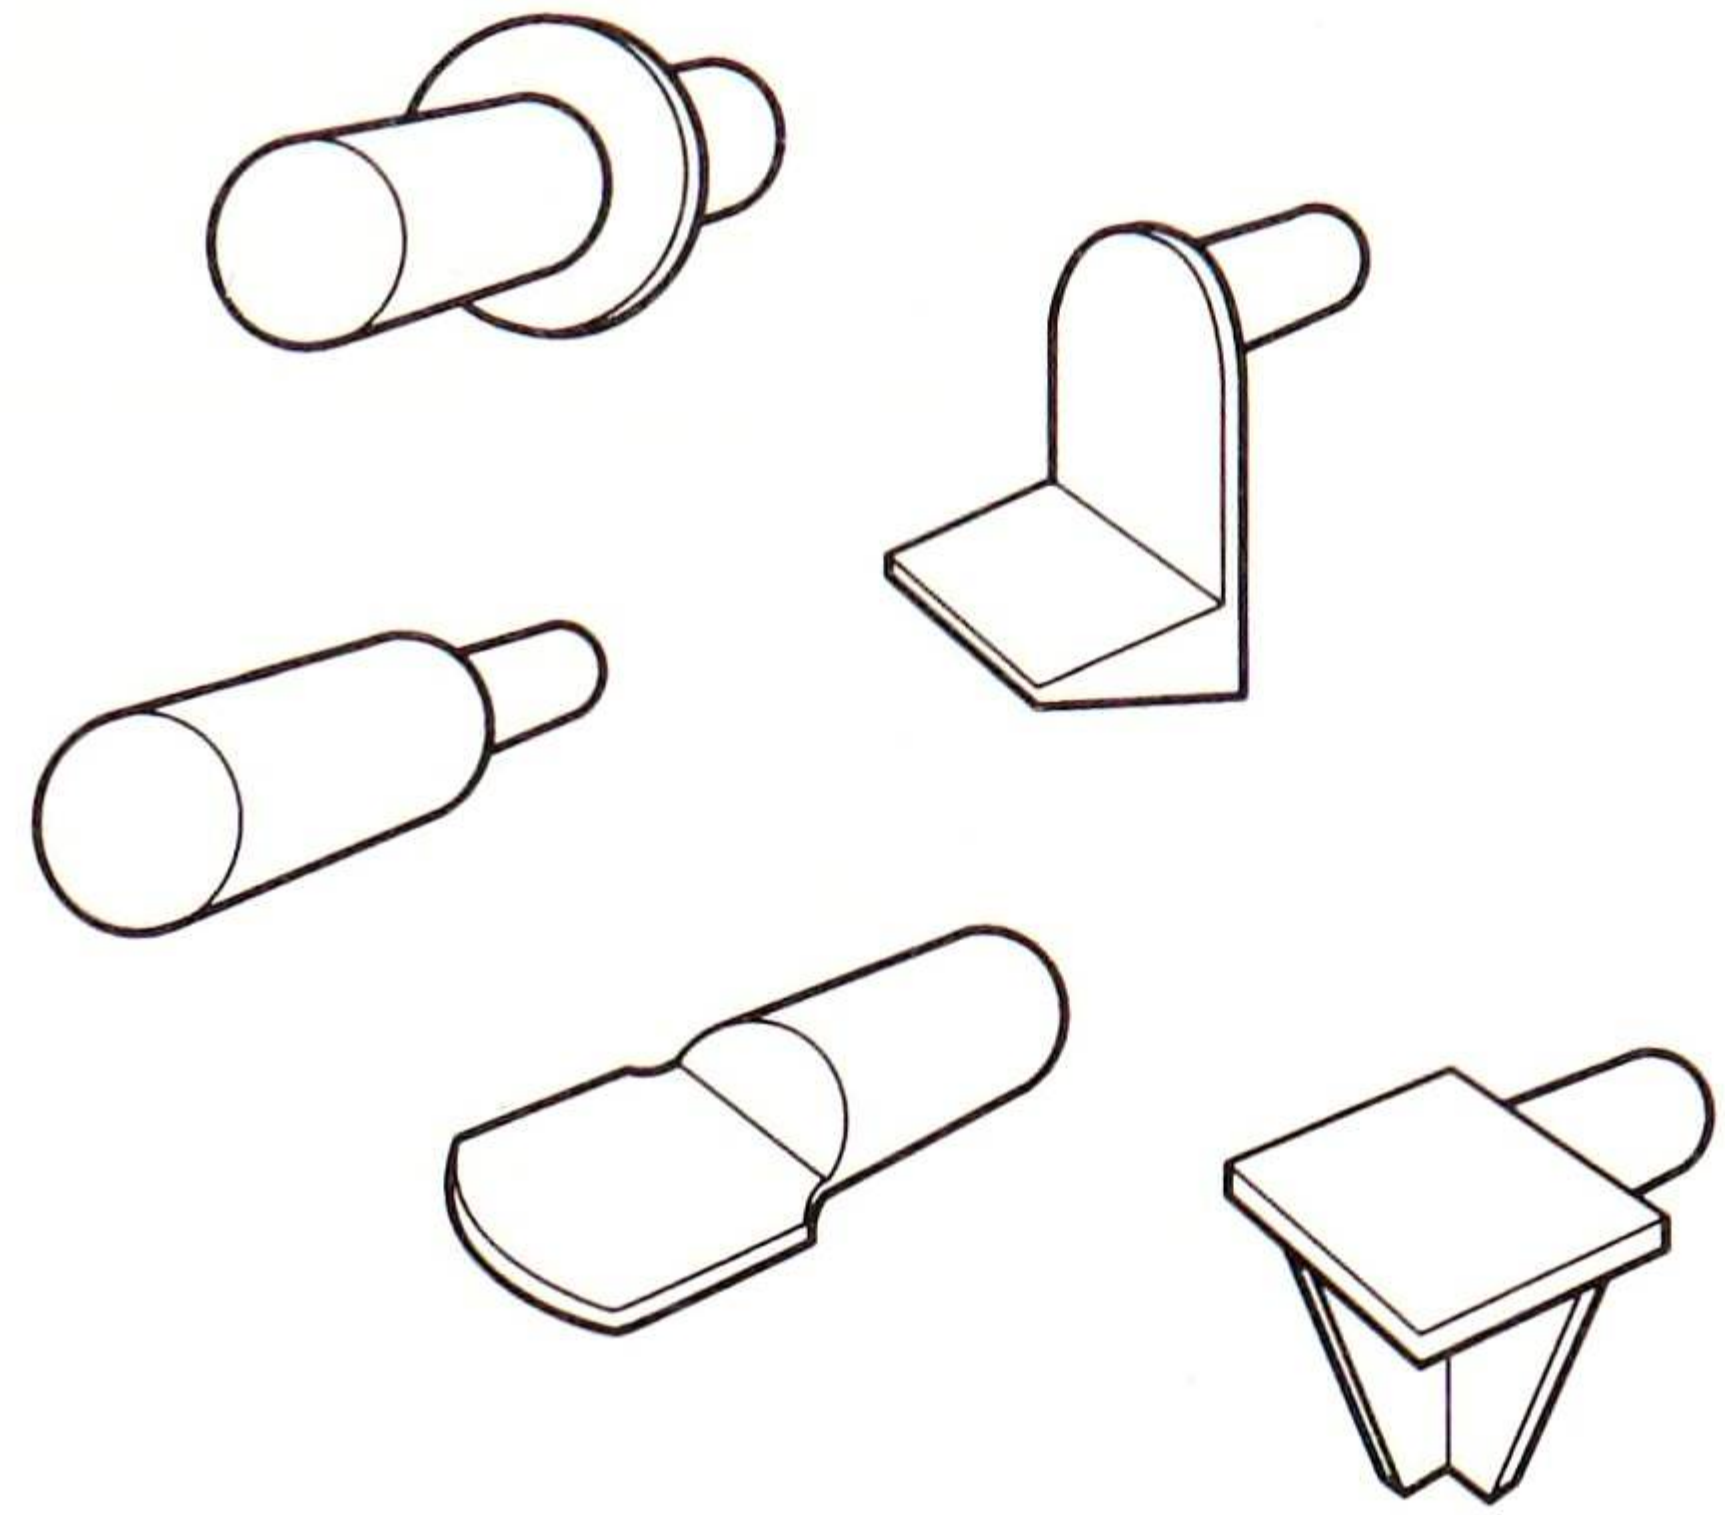

Fig. 6 These fittings simply fit into holes drilled into the surface
1. There is a wide range of fittings that slot into simple drilled holes in the side (Fig. 6). A simple way to make your own is to obtain some $\frac{3}{16}$ in (5 mm) brass rods, cut into sections $\frac{1}{4}$ in (25 mm) long and drill your holes to accept these at approximately $\frac{1}{2}$ in (12 mm) depth. Another way is to use supports called magic wires. These are pieces of thin wire which fit into two holes as shown. The advantage here is that they are invisible since the wires run in grooves in the ends of the shelves. A similar system uses mini wires (Fig. 7).